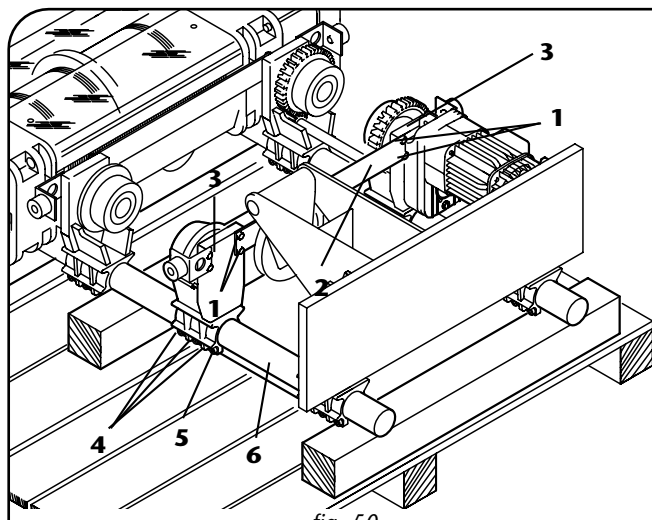

fig. 50
6. Loosen, without unscrewing them completely, the fixing screws -1- of the horizontal plates -2- of the vertical plates on the balance weight side -3- until they are not rigidly constrained together, as well as the self-blocking nuts -4- of the brackets -5- which fix the plates -3- on the balance weight side of the bars -6- (fig. 50).